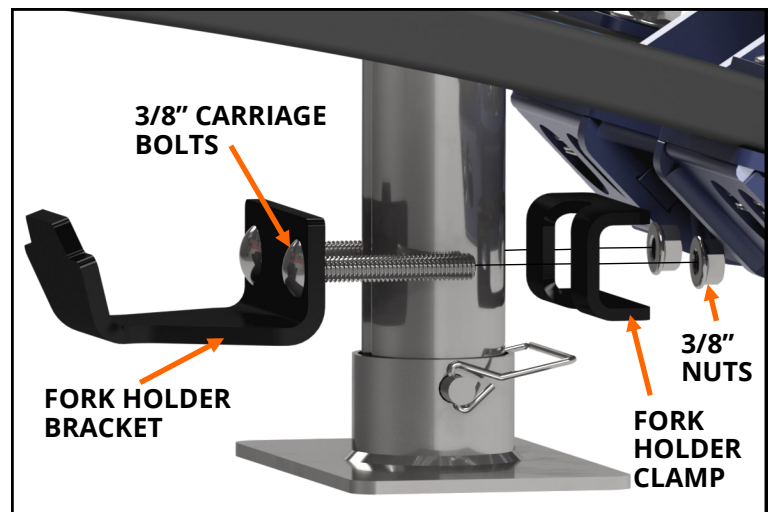

FIGURE H1: View of the jack foot under the trailer.
1. **Install fork holder bracket.** Retrieve the fork holder bracket, fork holder clamp, two 3/8" carriage bolts, and two 3/8" nuts. Insert the two carriage bolts into the fork holder bracket, and then place the assembly around the leg of the jack stand. Attach the fork holder clamp to the fork holder bracket using the 3/8" carriage bolts, and then secure it with the two 3/8" nuts. The bracket must be aligned so it is in front of the tongue jack and above the jack foot, **see Figure H1.** Torque the 3/8" nuts to 30 ft.-lbs.